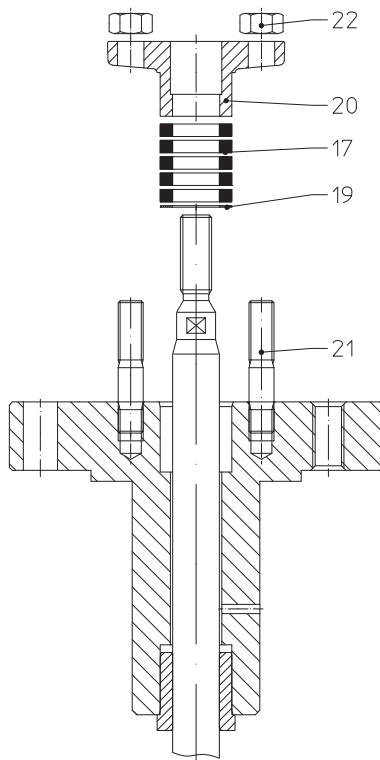

Fig. 6: Stuffing box packing
- Insert the new packing ring as shown in the Fig. 6.